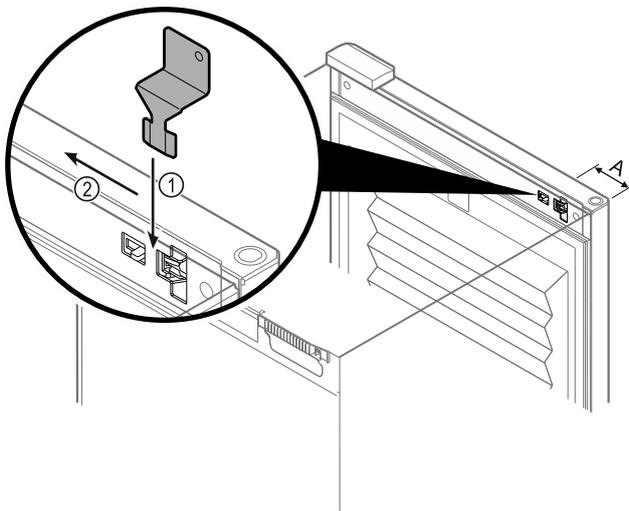

Fig. 164
- ▶ Position the emergency unlocking key in the location shown Fig. 164 (A) ≈ 100mm.
- ▶ Insert the emergency unlocking key from above between the door and the appliance body as far as it will go Fig. 164 (1).
- ▶ Drag the emergency unlocking key towards the hinge side Fig. 164 (2).